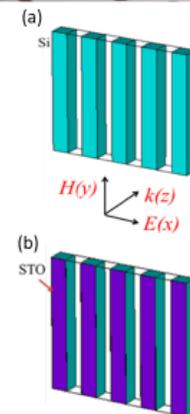

Fig. 8: (a) Schematic illustration of SAMs
- This is achieved by covering the SAM with a layer of an active medium: **Strontium Titanate (STO)**. (Fig. 8(b))